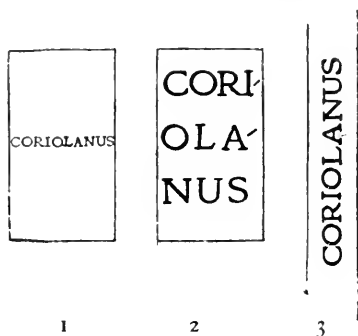

FIG. 95.
As a general rule, lettering looks best if it comfortably fills the panel, but of course it cannot always be made to do this. The greatest difficulty will be found in making titles of books that consist of a single word, look well. Thus if you have "CORIOLANUS" to place on a back which is not more than $\frac{5}{8}$ -inch wide, if it is put across as one word, as at fig. 95 (1), it will be illegible from the smallness of the type, and will tell merely as a gold line at a little distance. If a reasonably large type is used, the word must be broken up somewhat, as at (2), which is perhaps better, but still not at all satisfactory. The word may be put straight along the back, as at fig. (3), but this hardly looks well on a book with raised